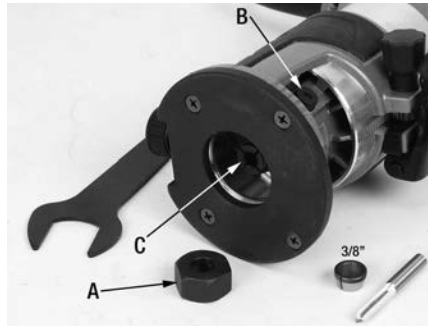

Figure 1
First, remove the collet nut (A) Fig.1. Press the spindle lock button (B) to fix the tool spindle, using the supplied wrench, loosen and remove collet nut.
If you desire to use a 1/4" shank bit, the 1/4" collet (C) Fig.1 needs to be placed in the tool chuck as shown. Reinstall the collet nut, do not tighten.